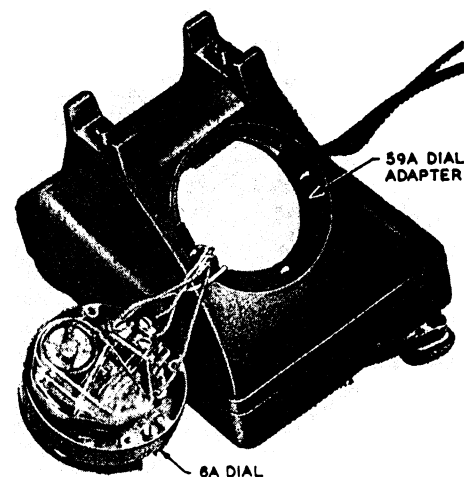
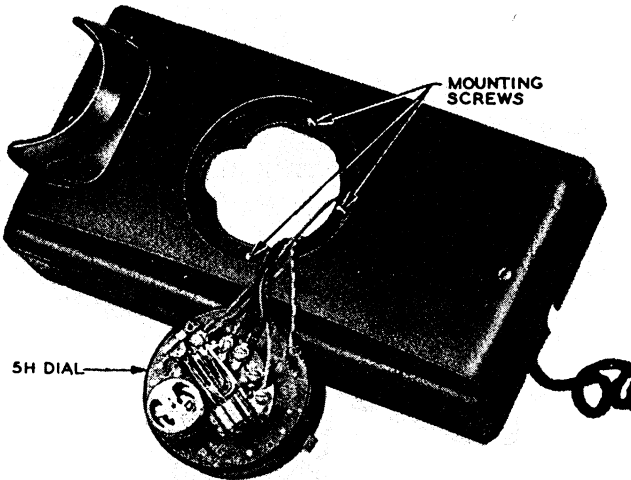

Fig. 18 — Dial Assembly — 302G Telephone Set
Fig. 19 - Dial Assembly - 354C Telephone Set
3.05 Fig. 18 shows the assembly of a 6A dial with a 59A adapter in the 302G telephone set. Fig. 19 shows the assembly of a 5H dial in the 354C telephone set.